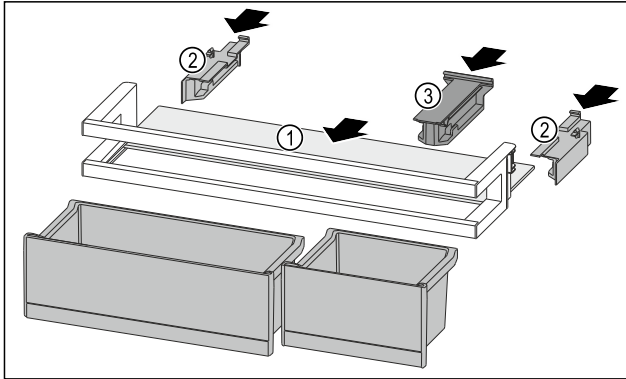

Fig. 113
- ▶ Push the shelf Fig. 113 (1) into the side cutouts.
- ▶ Insert the side parts Fig. 113 (2).
- ▶ Insert the retaining part Fig. 113 (3).